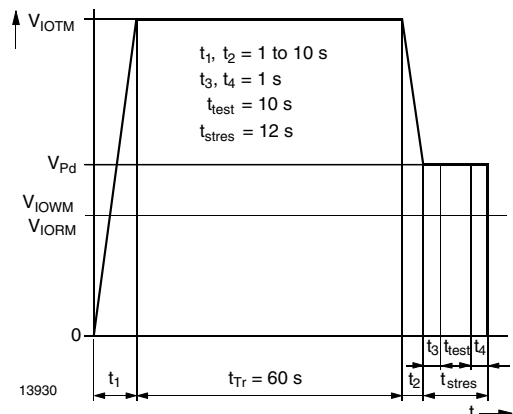

Fig. 2 - Test Pulse Diagram for Sample Test according to DIN EN 60747-; IEC 60747
(1) According to DIN EN 60747-5-5 (see figure 2). This optocoupler is suitable for safe electrical isolation only within the safety ratings. Compliance with the safety ratings shall be ensured by means of suitable protective circuits.